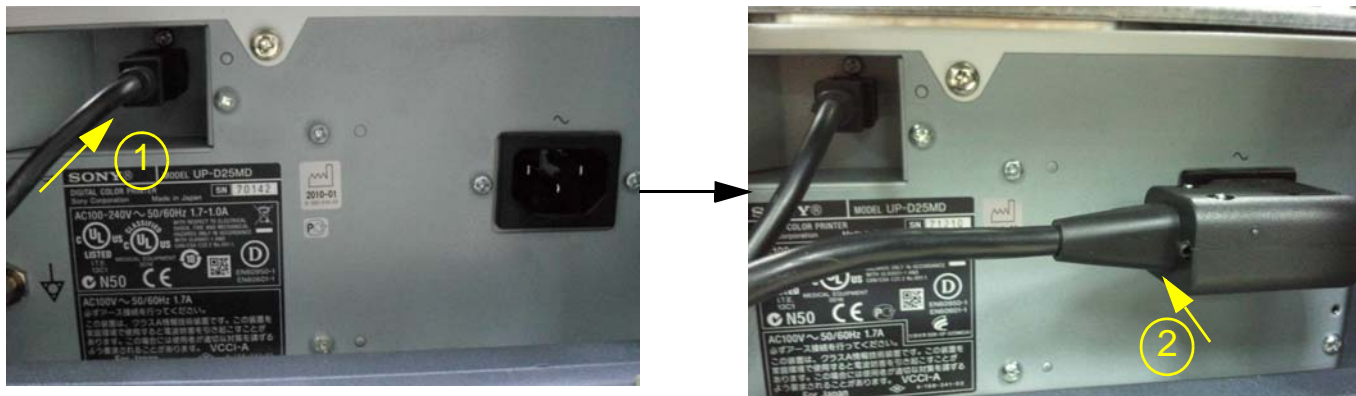

Figure 8-165 Connecting the COLOR PRINTER CABLE into the PRINTER
b.) COLOR PRINTER CABLE - Figure 8-165 on page 8-124